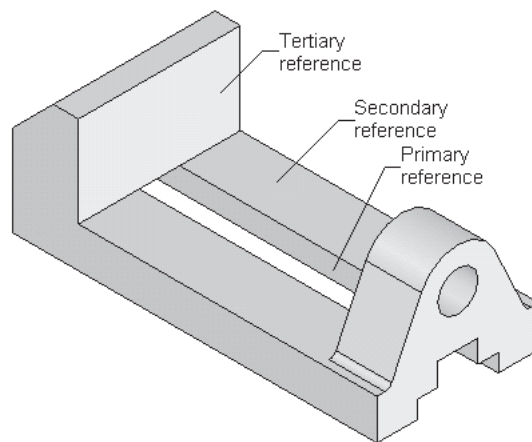

Figure 12-56 Faces to be selected as mate references
- Open the Vice Body and Vice Jaw part documents and define the mate references in both part documents, refer to Figures 12-56 and 12-57
4. Select the planar face of the model, as shown in Figure 12-56, as the primary reference; the selected planar face is highlighted.
6. Select the planar face of the model, as shown in Figure 12-56, as the secondary reference; the selected face is highlighted.
8. Select the planar face of the model, as shown in Figure 12-56, as the tertiary reference. The selected face is highlighted.